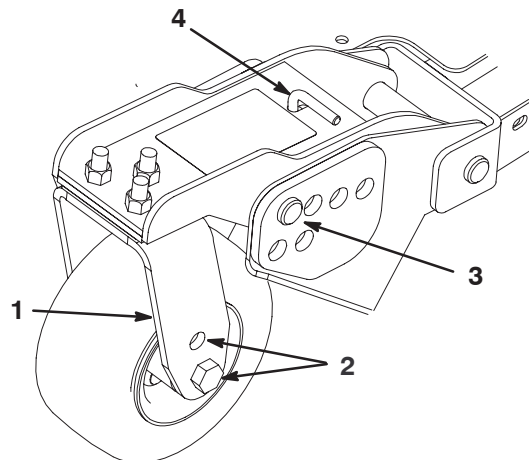

Figure 16
4. Remove the hairpin cotter and clevis pins from the castor pivot arms (Fig. 16).
5. Rotate tension rod to raise or lower pivot arm until holes are aligned with selected height-of-cut bracket holes in the cutting unit frame (Fig. 16 & 17)